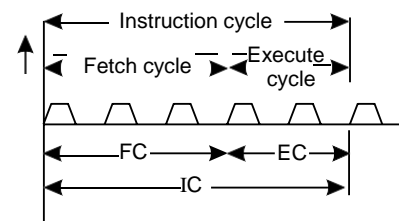

Fig. 2.19: Instruction cycle showing FC, EC and IC
An IC consists of Fetch Cycle (FC) and an Execute Cycle (EC). Thus $IC = FC + EC$. It is shown in Fig. 2.19. Depending on the type of instruction, IC time varies.